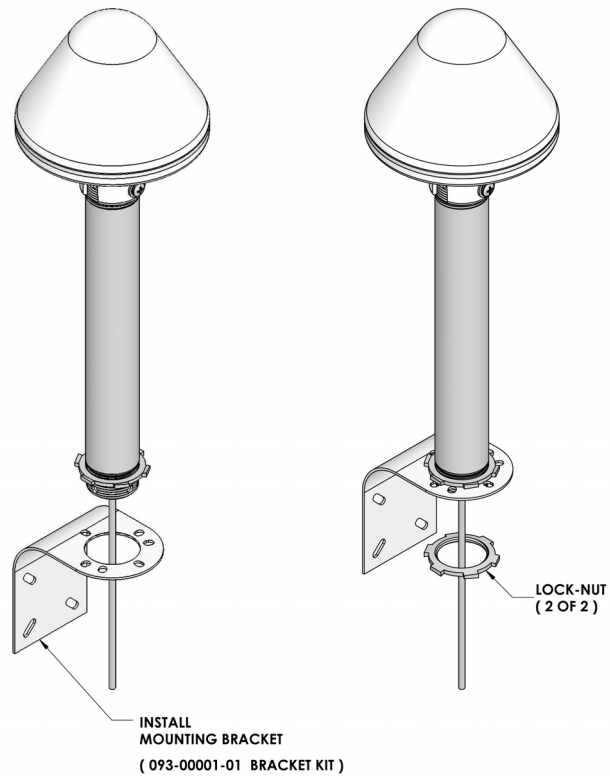

Figure 2-12 • Attaching SyncServer S80 and Pole to Bracket
12. Attach the mounting bracket (093-00001-01) to the bottom of the mounting pole, as shown in Figure 2-12. Screw the second pipe nut onto the bottom of the mounting pole.